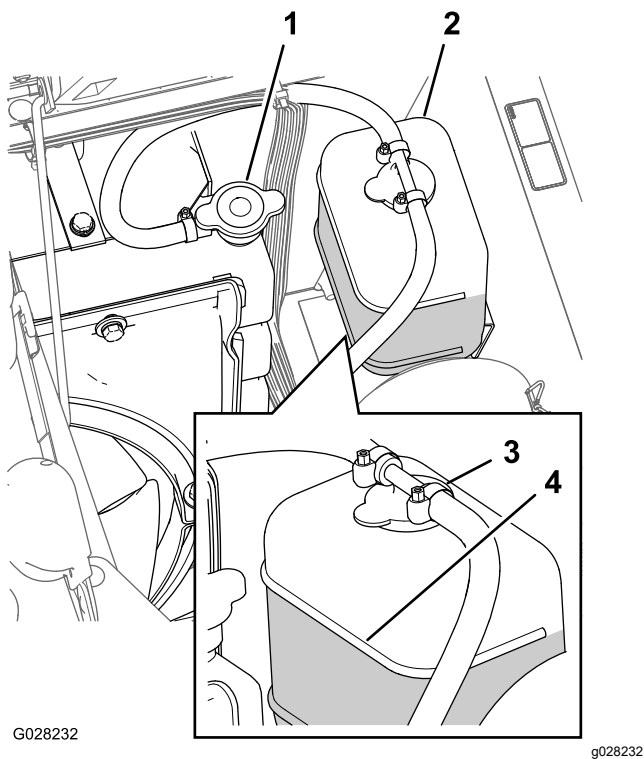

Figure 104
3. Carefully remove the radiator cap and the expansion-tank cap (Figure 104).
Note: The radiator should be filled to the top of the filler neck and the expansion tank filled to the Full mark on the tank (Figure 104).
5. If the coolant level is low, remove the expansion-tank cap and the radiator cap, and fill the expansion tank to the Full mark and the radiator to the top of the filler neck (Figure 104).
6. Install the radiator cap and the expansion-tank cap (Figure 104).
2. Wait until the engine is cool, then remove the radiator cap (Figure 104).
6. Remove the radiator cap (Figure 104).
8. Start the engine with the cap loose on the radiator (Figure 104).
10. Once the coolant has warmed up, top off the coolant level to the sealing surface of the cap and tighten the cap (Figure 104).
11. Open the expansion-tank cap and fill the tank with coolant to the Cold level (Figure 104).